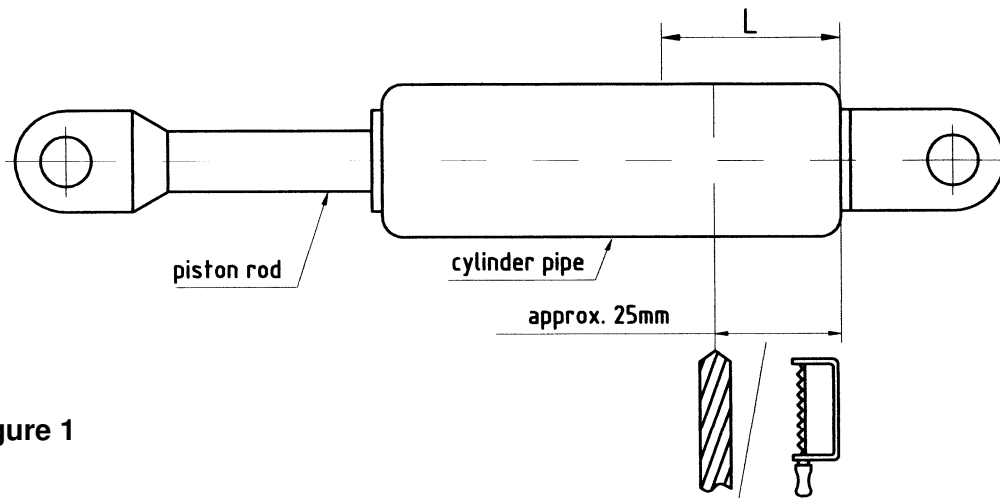

Figure 1
2. To depressurize the tube, it must be slowly sawed using a hand saw or drilled using an approximately \varnothing 2.5 mm drill at the location indicated (see Figure 1). Stop performing this step as soon as you hear a hissing noise. The filler medium used (nitrogen) is found naturally in the air. Therefore releasing it is completely harmless.